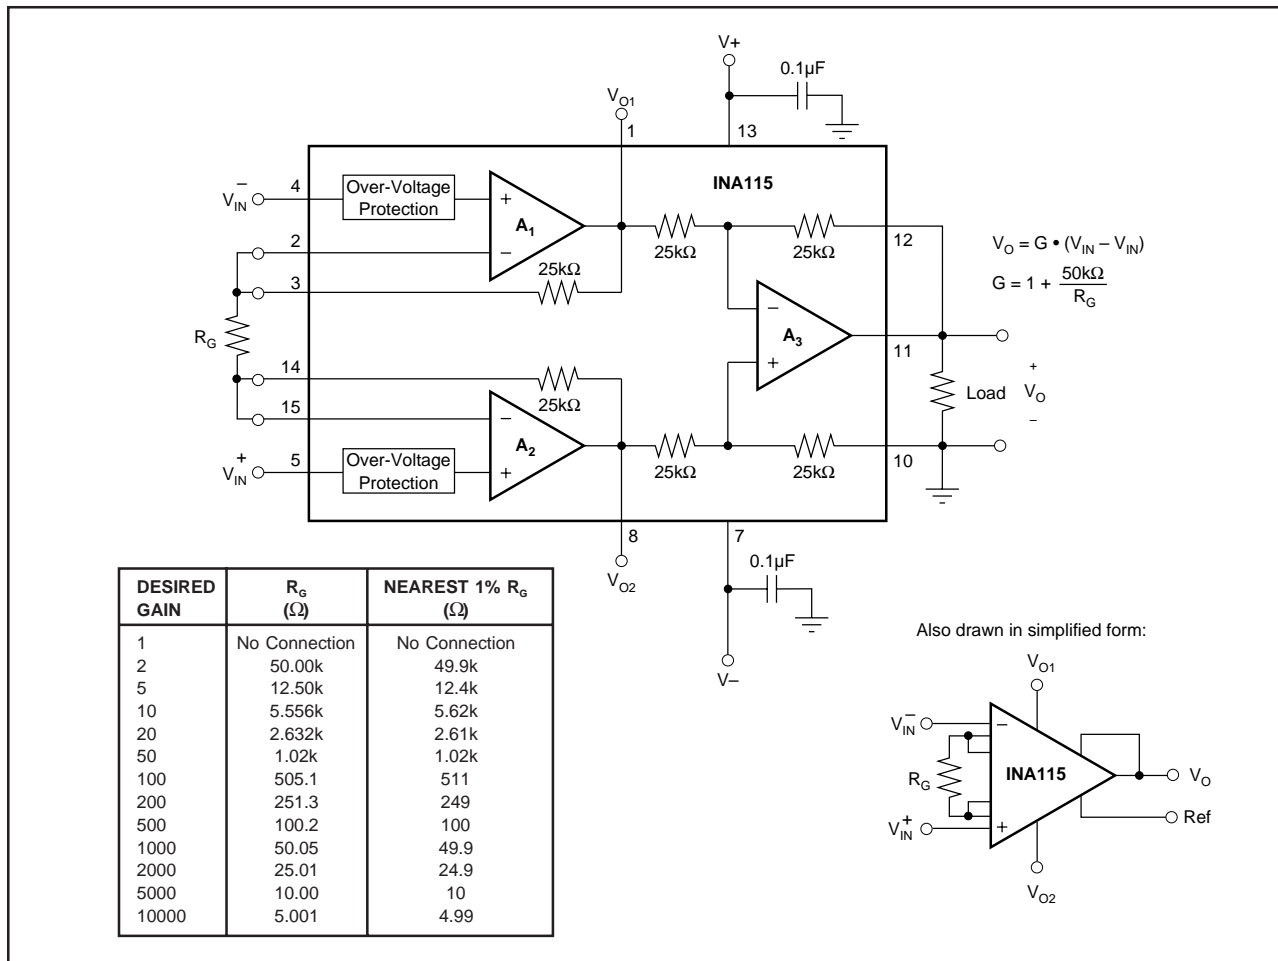

FIGURE 1. Basic Connections.
Figure 1 shows the basic connections required for operation of the INA115. Applications with noisy or high impedance power supplies may require decoupling capacitors close to the device pins as shown.
Commonly used gains and resistor values are shown in Figure 1.
The stability and temperature drift of the external gain setting resistor, R_G , also affects gain. R_G 's contribution to gain error and drift can be directly inferred from the gain equation (1). Low resistor values required for high gain can make wiring resistance important. The "force and sense" type connections illustrated in Figure 1 help reduce the effect of interconnection resistance.